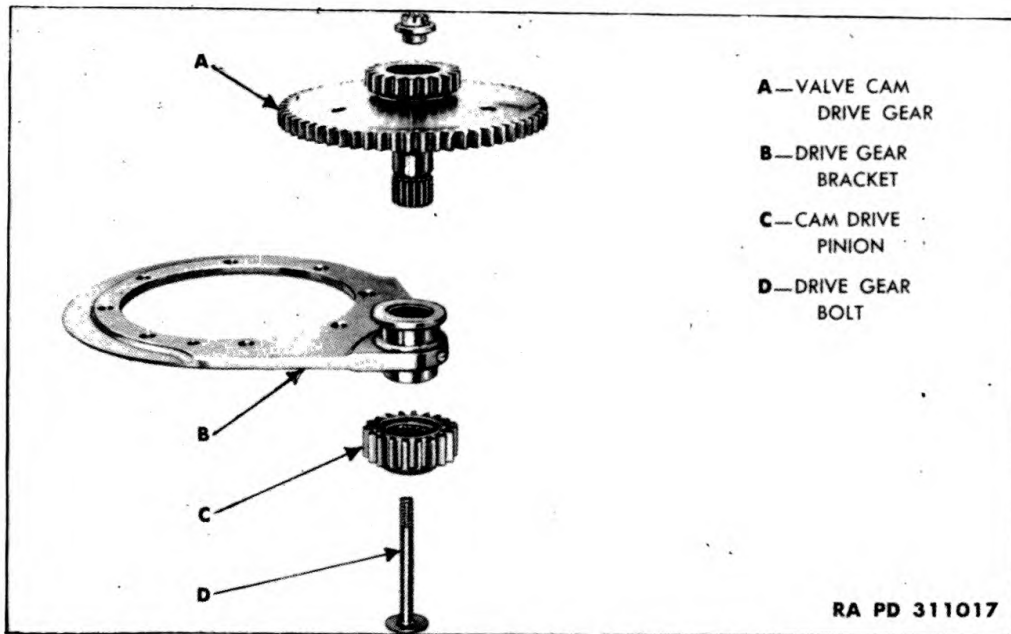

Figure 35 – Cam Drive Gears Disassembled
a. Disassembly. Remove screws which attach cam drive gear bracket to the crankcase main front section. Remove bracket cam drive gear and pinion assembly (fig. 35). Remove cam drive gear bracket spacer and splined cam bearing ring spacer. Lift off cam. Do not remove cam bearing ring unless replacement of this part is found necessary. Remove cotter pin, nut bolt, cam drive gear, and pinion. Remove crankshaft front main bearing outer race from inner bore of crankcase main front section. Remove piston cooling jets using wrench (5A2184).